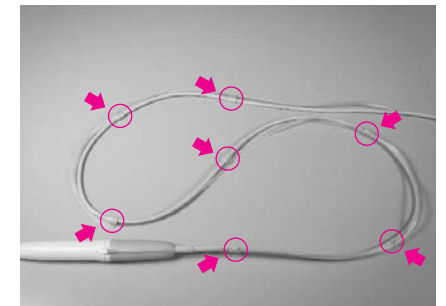

Fig. 16
- Assemble the handpiece cord and irrigation tube by means of the 7 tube holders. (Fig. 16)